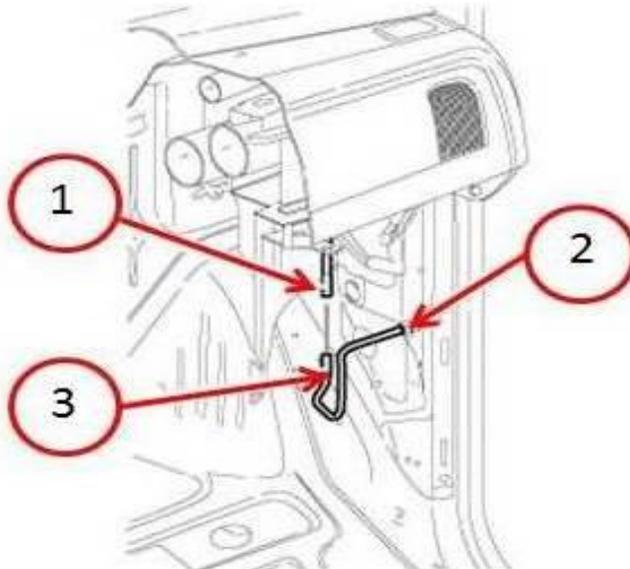

**Fig. 3 Passenger Lower Trim Panel**
5. Remove the passenger side cowl trim panel (Fig. 3).